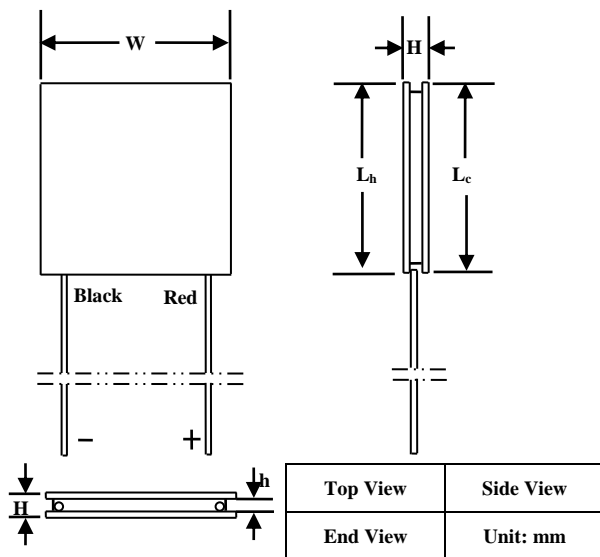
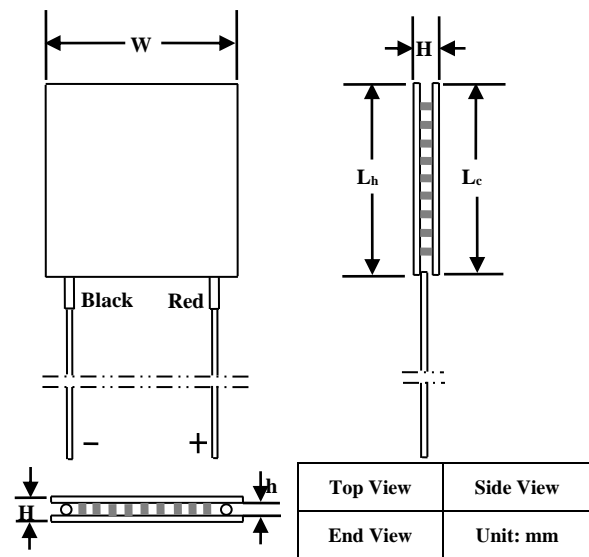

Figure 6. Mechanical Dimensions of Sealed ATE1-49
Figure 7. Mechanical Dimensions of Non-sealed ATE1-49
The ATE1-49 TECs come with 2 insulated lead wires. The positive wire is in red color, and the negative wire is of black. The mechanical dimensions are shown in Figure 6, Figure 7 and Table 1.
**Note:** As Figure 6 shows, when the red lead wire is on the right, then the top surface is the cold side of the TEC.